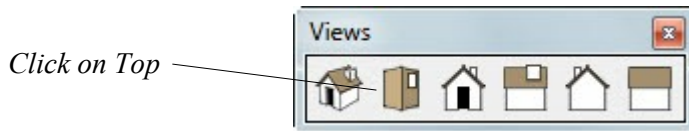

Figure 93. The Views Toolbar
- Firstly, use **VIEW/Toolbars** and click on **Views** to load the Views toolbar as shown in Figure 93.
- Click on the 'Top' view as shown in Figure 93 and your model will adopt a plan view.